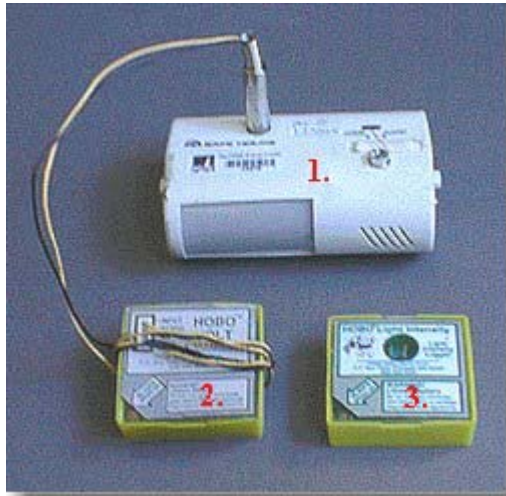

Figure 1 Occupancy Sensor Toolkit:
- Plug the Hobo Volt into the jack located on top of the motion detector as seen in figure 1.